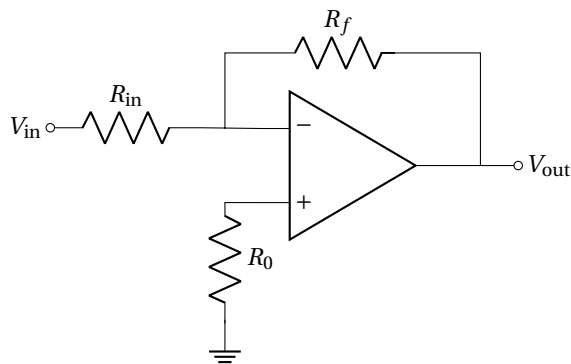

Figure 1: LM741 inverting amplifier schematic. Note that the offset null circuit and power supplies are not shown, but must be present.
2. Construct the circuit shown in Figure 1 in a SPICE simulation program. In LTspice, you can use the **OP07** operational amplifier and will need three voltage supplies (± 12 V DC for the power connections on the top and bottom of the device, and a sine wave V_{in}). Use the simulation to complete the last part of Section B Part 2, measuring the gain as a function of frequency.
Hook up the inverting amplifier circuit shown in Figure 1. Set the input resistor $R_{in} = 1 \text{ k}\Omega$ and for now use a feedback resistor $R_f = 100 \text{ k}\Omega$. Set R_0 to be approximately the equivalent of R_{in} and R_f connected in parallel, i.e.